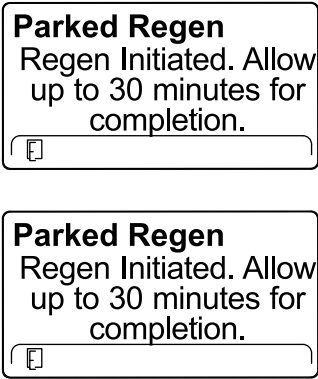

Figure 59
- The InfoCenter displays the time to complete message (Figure 59).